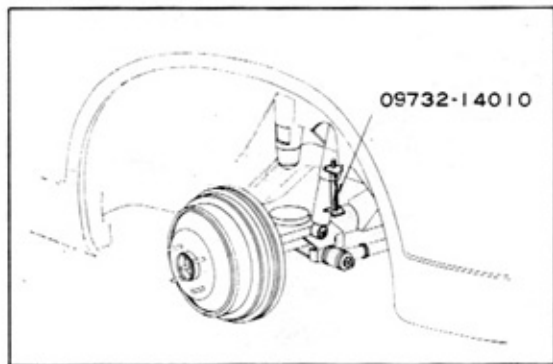

Fig. 5-9 Wheel Height Adjustment
1. Install the Rear Axle Height Gauge [09732–14010] between the rear axle housing and rear side member. (Refer to Fig. 5-9 for installation procedure)